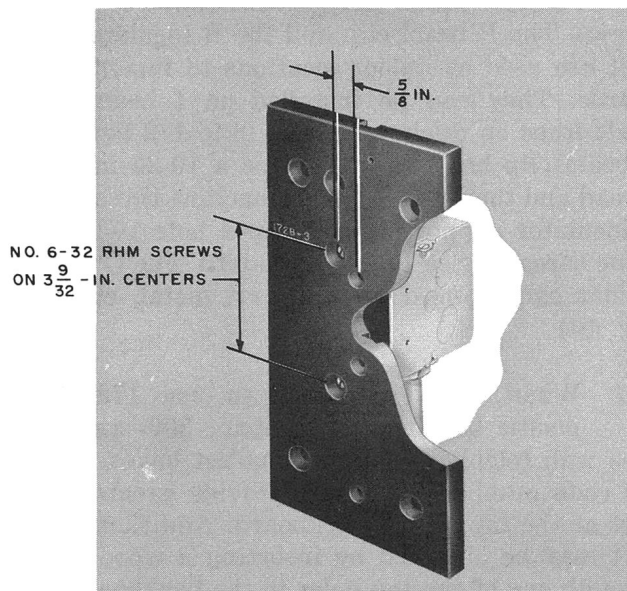

Fig. 3 — 172-Type Backboard Mounted over Telephone Outlet Box
2.11 When it is not possible to directly install station sets, etc, over telephone outlet boxes, backboards of the 147-, 154-, 164-, and 172-type may be mounted (see Fig. 3). Backboards are not required for all telephone outlet box installations, eg, the new 554-type telephone set.